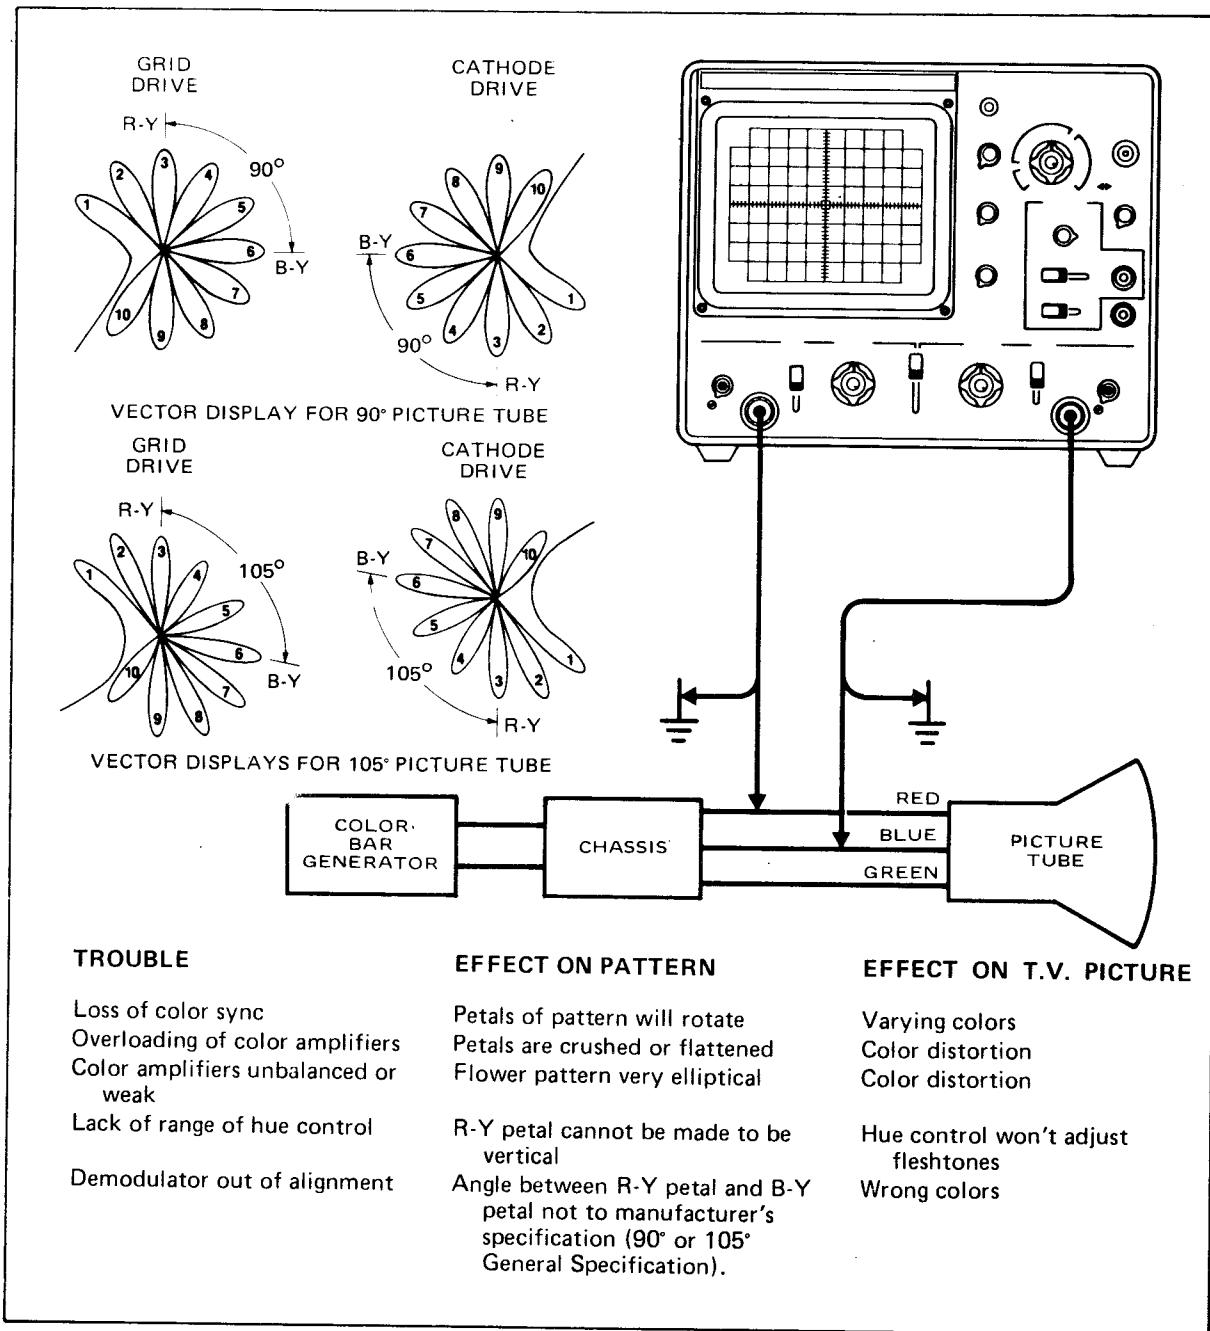

Fig. 26. Vectorscope operation and patterns.
- For vector presentation, merely move the horizontal probe to the driven element of the blue gun. The color vector pattern is the same type as given by the television set manufacturer. Fig. 26 shows typical displays obtained for sets using 105° systems and 90° systems with either grid drive or cathode drive.